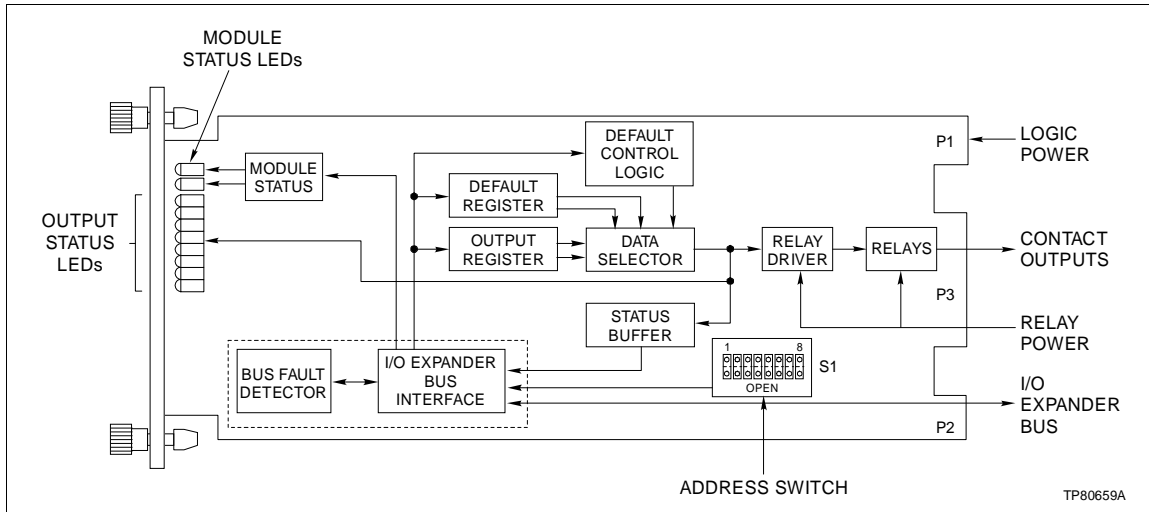

Figure 2-1. Block Diagram
Figure 2-1 is a block diagram of the DSO module. It illustrates signal flow through the module.
Each of the eight output circuits consists of a changeover contact of an electromechanical relay. The COM, NC, and NO contacts are available for the field devices on the P3 card edge connector (Figure 2-1). The on-board relays are driven by two transistor array integrated circuits which provide an extra voltage suppressor diode for each channel.
Logic power (+5 VDC) drives the DSO circuits. It connects through the top 12-pin card edge connector (P1) shown in Figure 2-1.
Relay power (+24 VDC) drives the on-board relays. It connects through the 30 pin card edge connector (P3) shown in Figure 2-1. The power line is protected against polarity inversion due to a cabling error on the termination unit (TU) or termination module (TM).